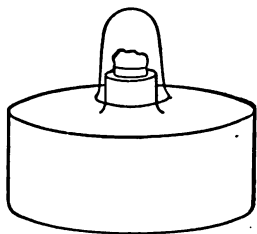

FIG. 4.
M. You will soon see why. A chemist uses these little tubes for most of his experiments, as long as he is not working with great quantities, and for that reason they are called test-tubes. Now I light my spirit lamp and heat the water with the copper sulphate (Fig. 4).